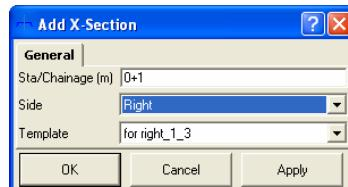

Figure 9-62. Add X-Section
- In the *General* tab of the *Add X-Section* dialog box, set the following parameters (Figure 9-62):